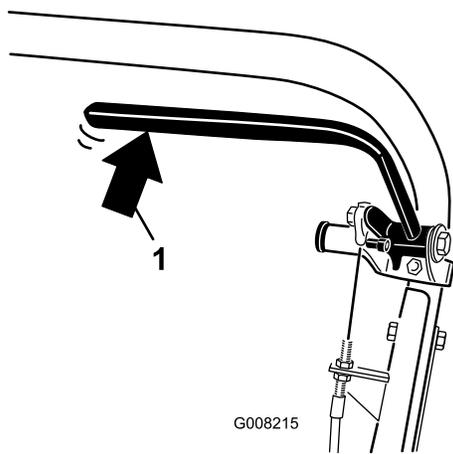

Figure 31
2. Using a spring scale, press rearward on the service brake lever (Figure 31). The parking brake should release when a force of 30 to 40 lbs (13.5 to 18 kg) is attained. If the parking brake releases before 30 to 40 lbs (13.5 to 18 kg) of force is attained, an adjustment to the brake cable is required. Proceed to step 3.